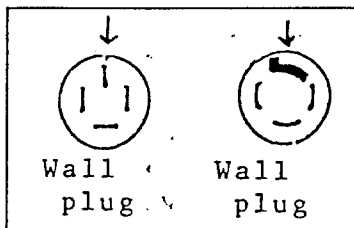

fig. 3
- To connect using plug: Connect green (earth) wire to prong (see arrow in fig. 3). Connect red, white and black wires to other prongs. Test as above.